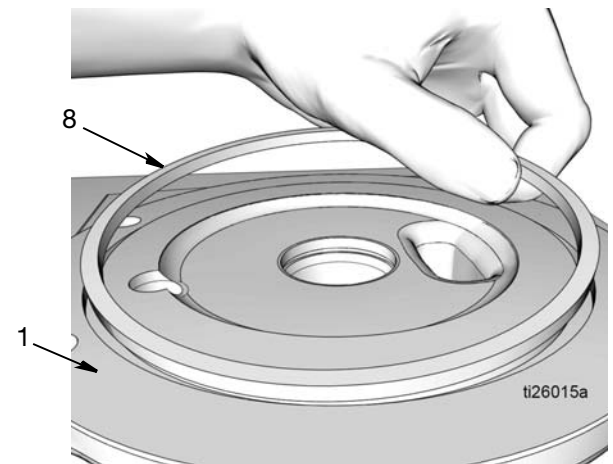

FIG. 45
7. Apply a thin layer of grease to square o-ring (8). Install square o-ring (8) in groove in pump base (1) as shown in FIG. 45.